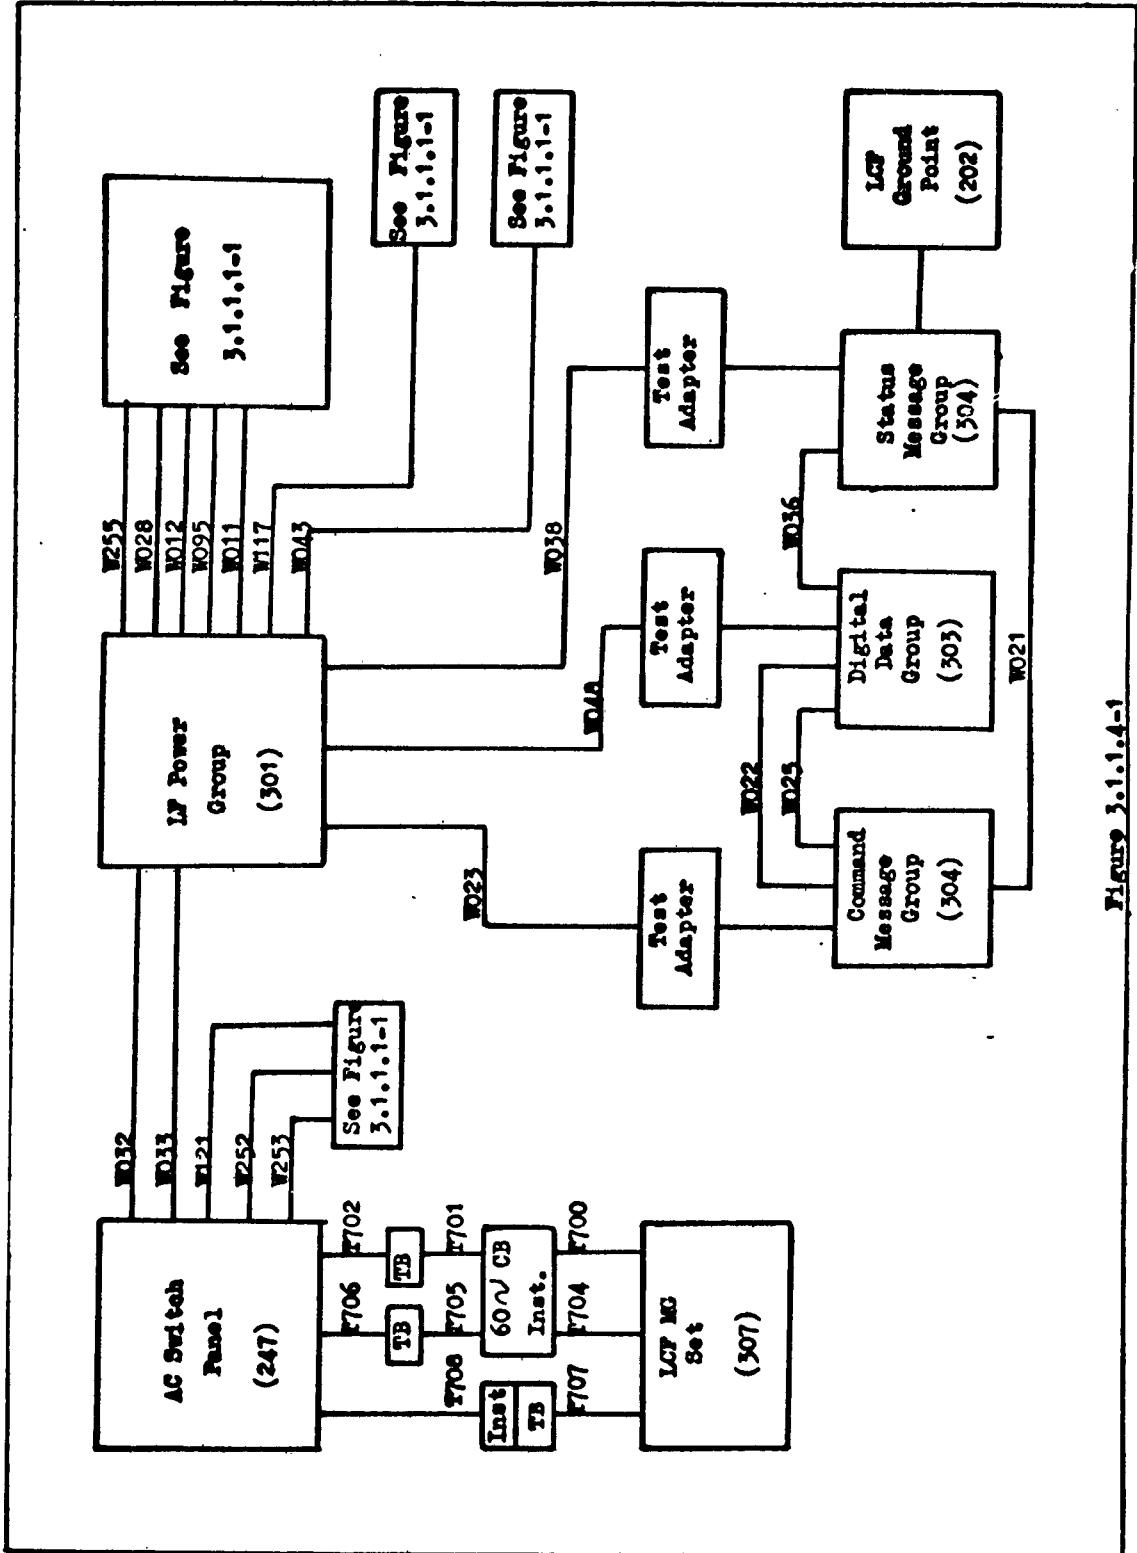

Figure 3.1.1-4-1
3.1 Connect the equipment per Figure 3.1.1.5-1.